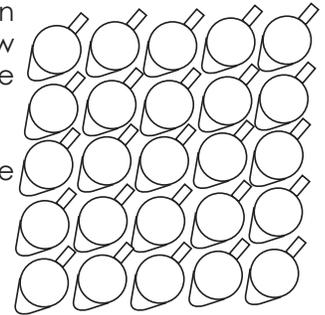

Figure 1
3. Load tubes in block. If all spaces will be used, it may be necessary to “nest” tubes (place tubes aligned with one another and facing the same direction). See Figure 1. Close lid.